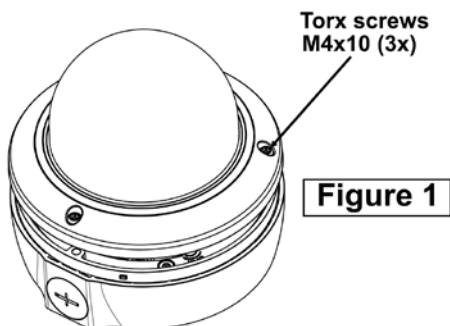

Figure 1
1. Loosen the three torx screws located midway up the front of the housing leave the screws intact in the front portion. **(Fig. 1)**